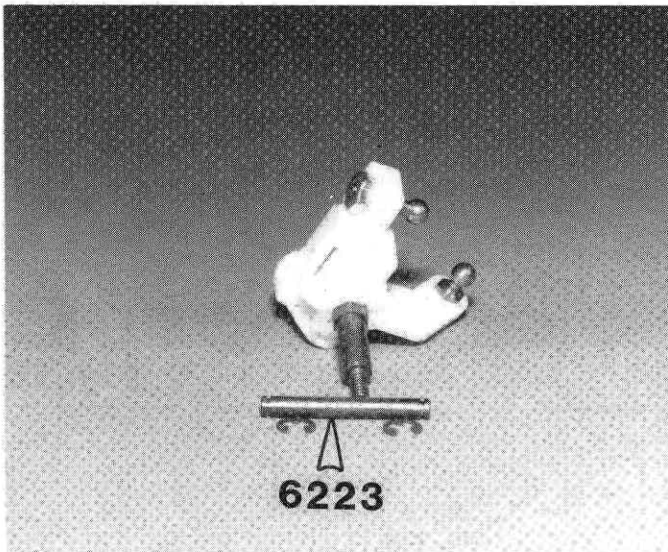

Fig. 12
□ **Fig. 12 - 12a** Line up the steering block in the block carrier, as shown, and push the #6223 king pin through. Now, install "E" clips on the top and bottom ends of the pin. If you run out of "E" clips, there are extras in the shock bags. Install the R.H. steering block.